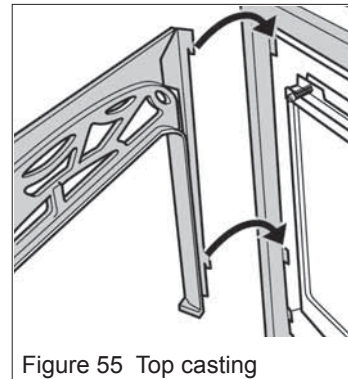

Figure 55 Top casting
2. Attach the top casting unit by hooking it over the four tabs at the firebox sides. See figure 55.